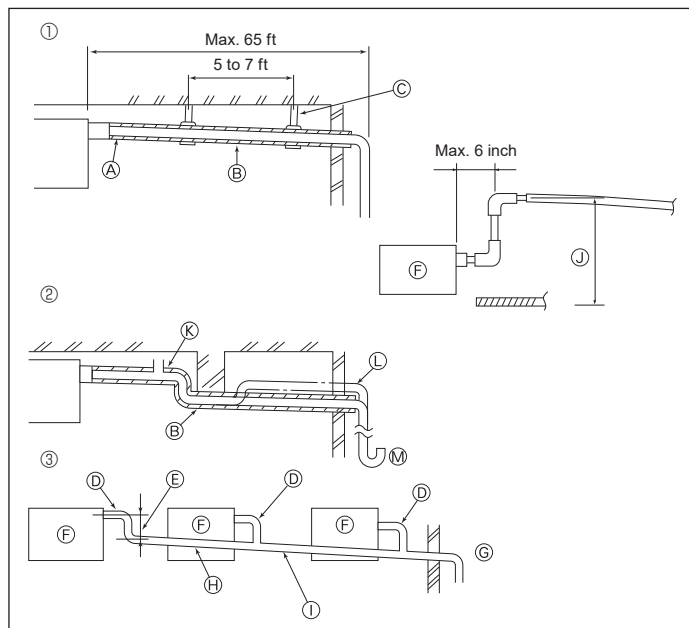

Fig. 3-4
3.4. Drainage piping work (Fig. 3-4)
- ① Correct piping
- ② Wrong piping
- Do not place an air bleeder. It may cause overflowing of drainage, ⑩
- Do not place a raised pipe on the piping, ①
- Do not place odor traps on the piping, ⑭
- ③ Grouped piping